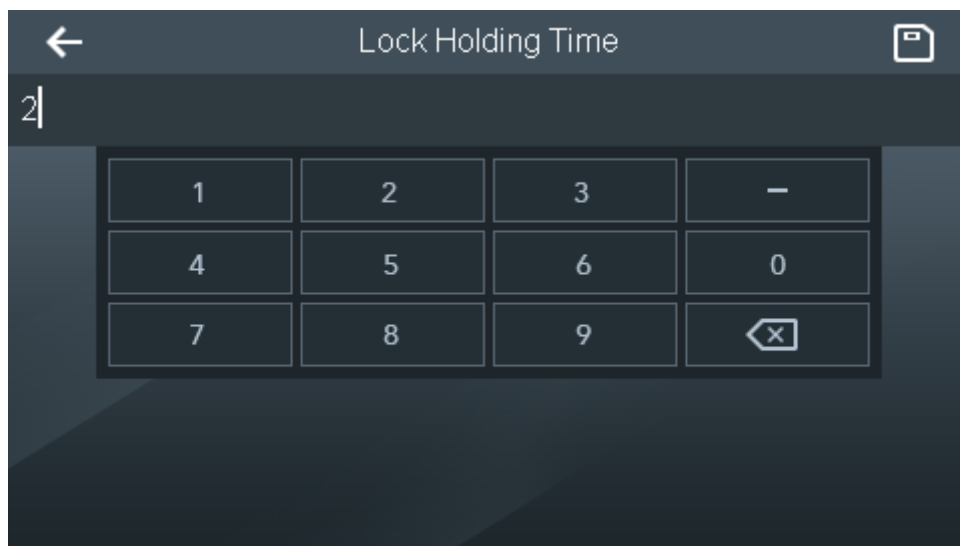

Figure 3-10
Step 1 Select “Features > Lock Holding Time”, and the screen displays Figure 3-10.